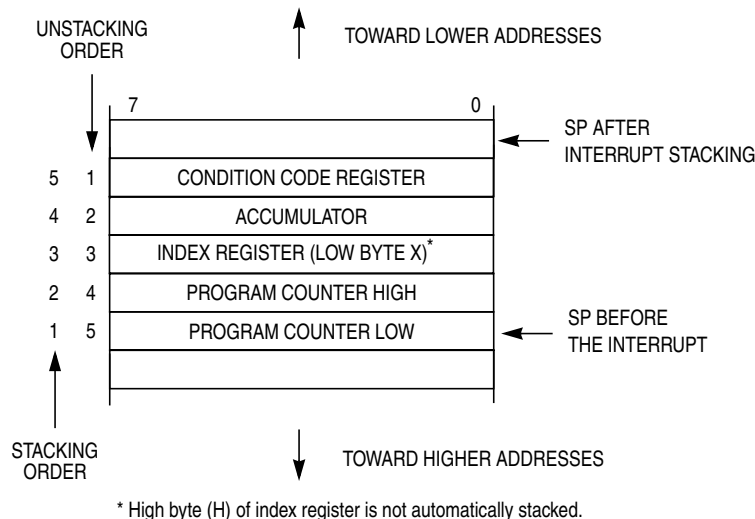

Figure 5-1. Interrupt Stack Frame
Figure 5-1 shows the contents and organization of a stack frame. Before the interrupt, the stack pointer (SP) points at the next available byte location on the stack. The current values of CPU registers are stored on the stack starting with the low-order byte of the program counter (PCL) and ending with the CCR. After stacking, the SP points at the next available location on the stack which is the address that is one less than the address where the CCR was saved. The PC value that is stacked is the address of the instruction in the main program that would have executed next if the interrupt had not occurred.